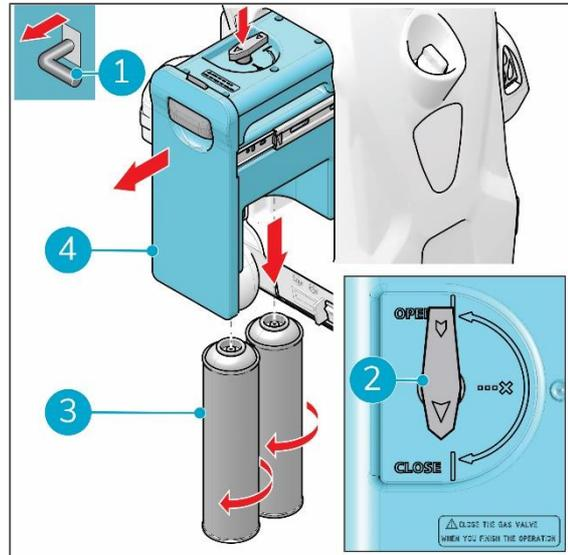

Figure 29
- pull the safety pin at the back of the the i-gum® (Figure 29, pos 1);
- pull the gas cartridge holder (Figure 29, pos 4) at the same time.
2. Make sure the gas valve (Figure 29, pos 2) is turned off.
- turn the first cartridge counterclockwise (left) to remove it (Figure 29, pos 3).
- turn the second cartridge counterclockwise (left) to remove it (Figure 29, pos 3).
- close the gas cartridge holder (Figure 29, pos 4) at the same time.